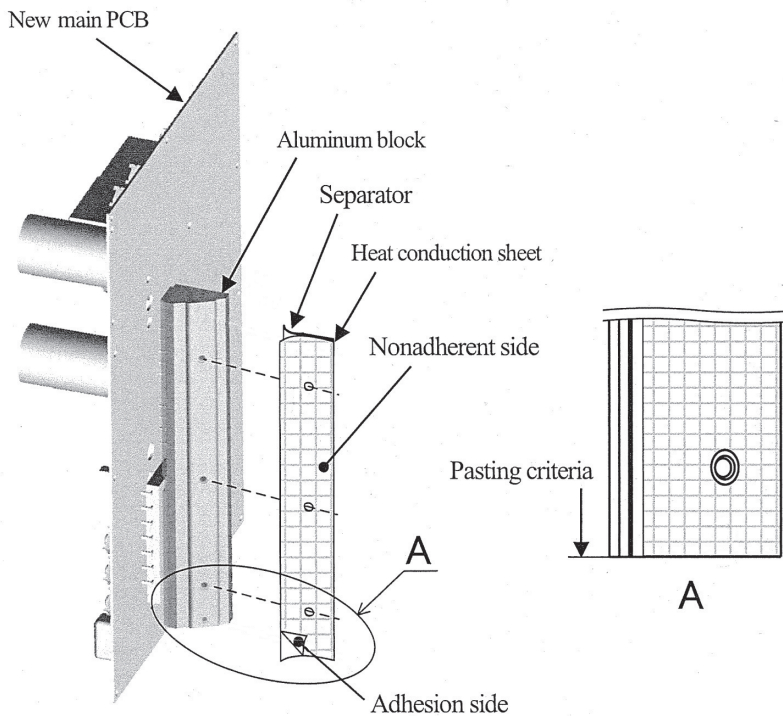

Fig.5 Detail of paste for the heat conduction sheet
- b) Turn over the separator of new heat conduction sheet and paste the heat conduction sheet on the aluminum block. (Refer to Fig.5.)